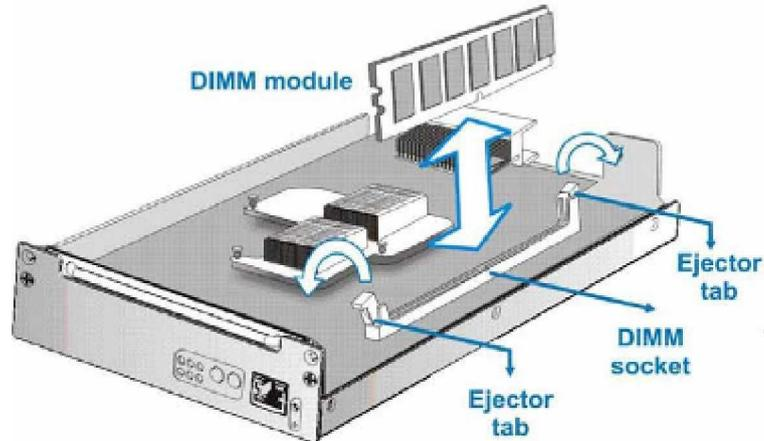

Figure 5-7: Removing the DDR RAM DIMM module
- Step 4. Remove the previously installed DDR RAM DIMM module.** To remove a DIMM module, push the DIMM socket ejector levers outward; the DIMM module will be ejected by the mechanism. (See **Figure 5-7**)